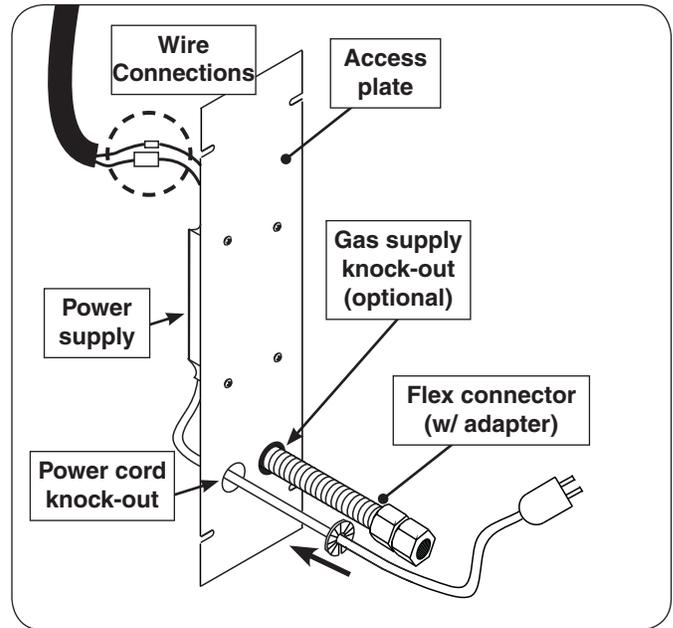

Fig. 12-1 Access plate view & install orientation
A power supply is pre-mounted to the access plate. For ease of installation, disconnect the power supply from the wire harness extension. Locate the wires coming from the inside of the post to the power supply and carefully disconnect (see Fig. 12-1 and 12-2).
3. Remove the plastic power cord bushing fastened to the inside of the post and install it onto the power cord. Slide the bushing up against the access plate knock-out hole and snap into place. See Fig. 12-1.
2. Remove the plastic grommet fastened to the inside of the post and insert it into the newly created opening. Then route the flex connector through the opening. See Fig. 12-1 and 12-2.